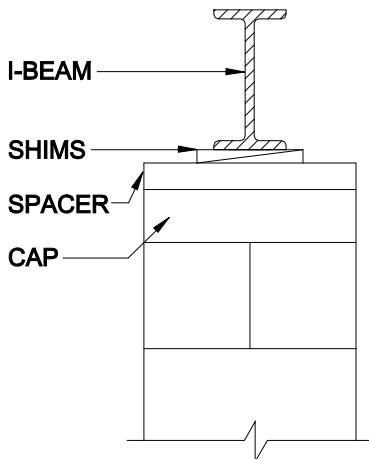

Figure 19. Correct shim placement
4. **Install shims.** Use shims to level the home and fill any gaps between the base of the I-beam and the top of the pier cap. When required, always use shims in pairs (Figure 19). Drive them in tightly so they do not occupy more than one inch of vertical space. When the space to be shimmed is greater than one inch and less than the minimum thickness of available caps or concrete blocks, use hardwood dimensional lumber (two inches maximum thickness) or 4" thick concrete block. For split caps, install shims and dimensional lumber/blocks over each individual cap. Two cap blocks may be used as the cap on double block piers provided the joint between the cap blocks is perpendicular to the joint between the open cell concrete blocks and is also perpendicular to the I-beam supported by the pier.